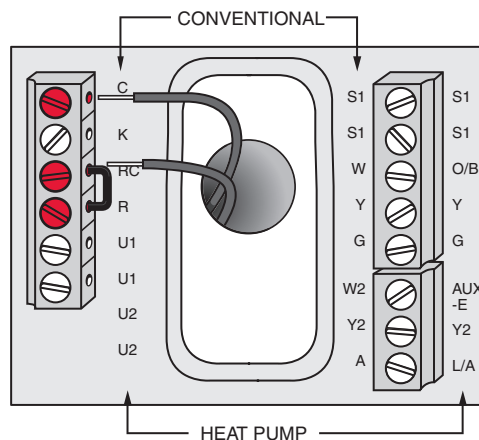

Fig. 20. Inserting wires in thermostat terminal block.
- Power the thermostat using Rc and C terminals or with batteries. Refer to Fig. 20.